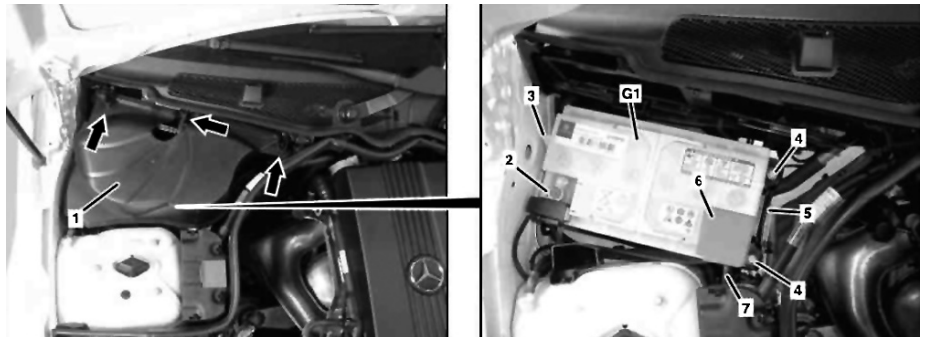

Fig. 1 Battery removal
4. Disconnect ground cable (2) from battery, **Fig. 1**.
5. Remove cover (6) and disconnect positive cable (7), **Fig. 1**.
6. Disconnect vent hose (3) from battery, **Fig. 1**.
7. Remove mounting rail (5) mounting bolts (4), **Fig. 1**.
8. Remove mounting rail (5) mounting nut (8), **Fig. 1**.
9. Remove mounting rail (5), **Fig. 1**.